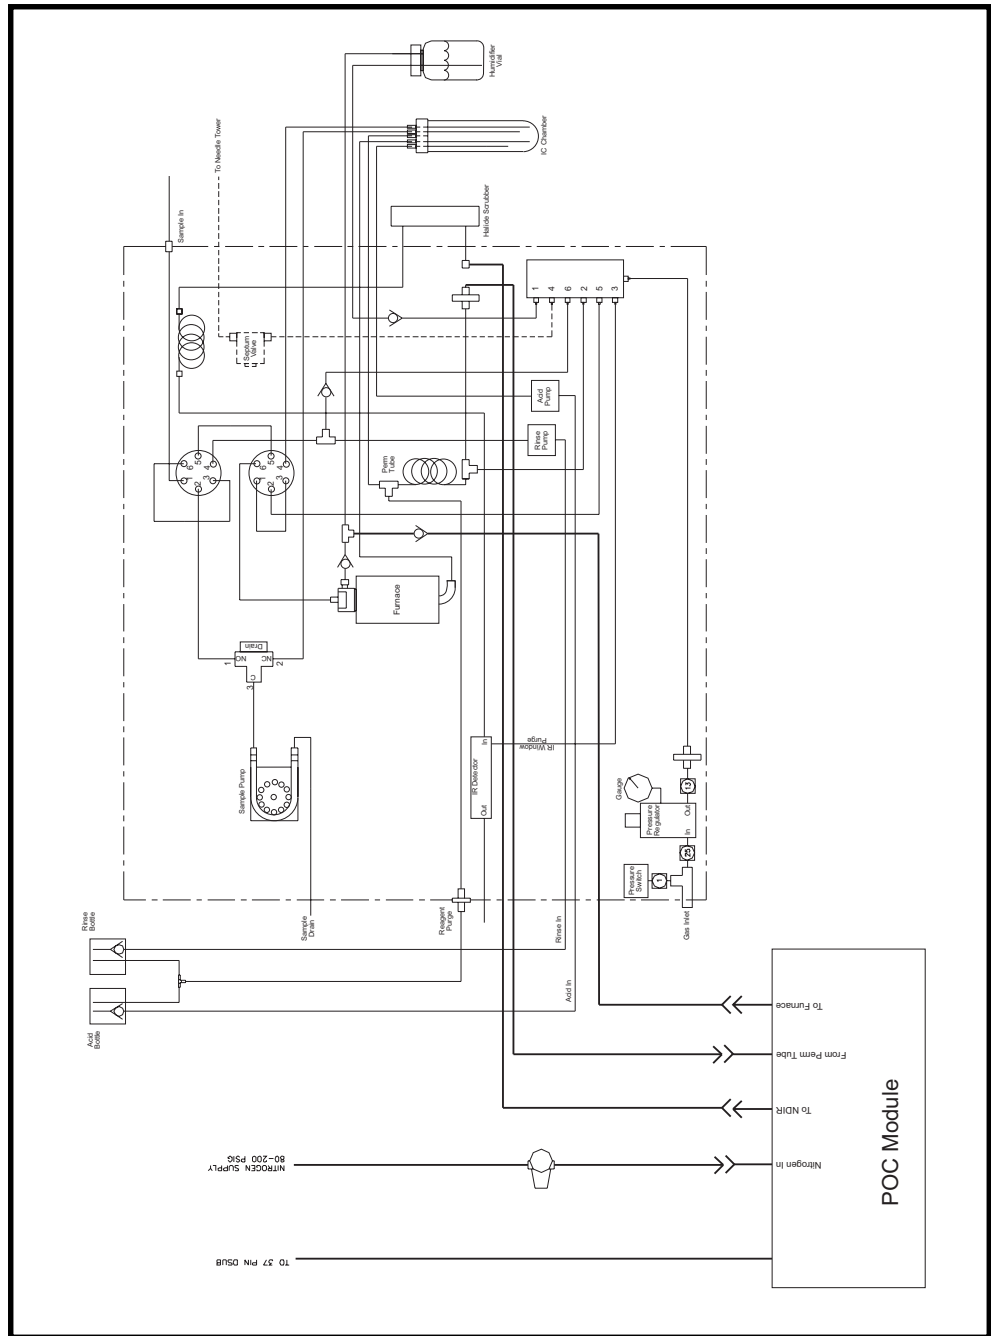

Figure 3.5. Model 1020A TOC Analyzer with POC Module Flow Diagram
**Note:** Refer to Figure 3.5 for steps 6–10.